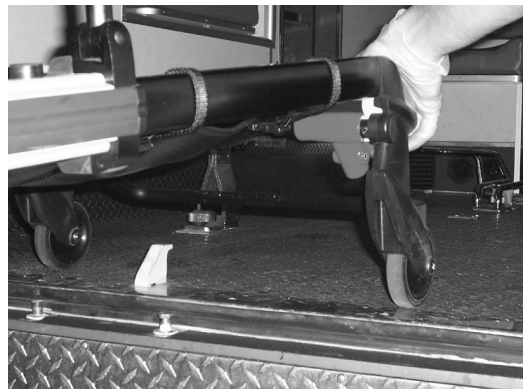

Figure 44: Disengaging the Safety Bar
4. **Operator 2** – Pull the safety bar release lever forward to disengage the safety bar from the safety hook in the patient compartment (Figure 44).